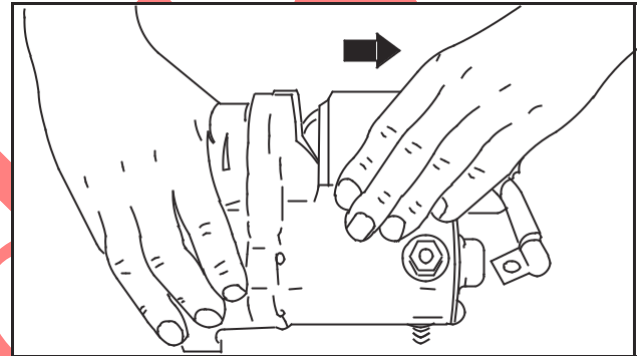

Fig. 53 – Removing Starter Motor
2. Remove through bolts and starter motor, Fig. 53.